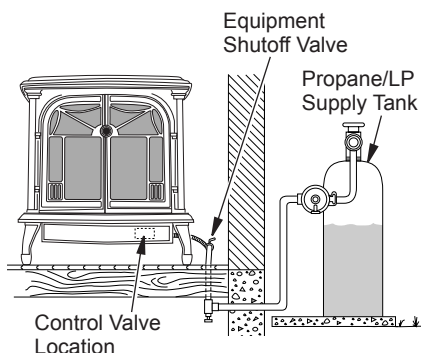
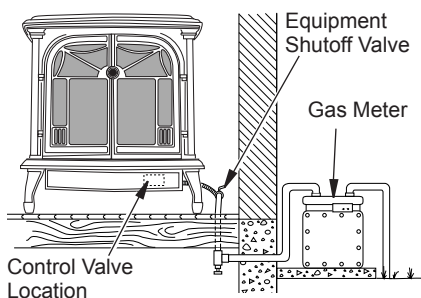

Figure 10 - Checking Gas Joints on Propane/LP Gas Unit
Figure 11 - Checking Gas Joints on Natural Gas Unit
shutoff valve (see Figure 10 or Figure 11). Apply noncorrosive leak detection fluid to gas joints. Bubbles forming show a leak.
4. Check all joints from equipment shutoff valve to control valve (see Figure 10 or Figure 11). Apply noncorrosive leak detection fluid to gas joints. Bubbles forming show a leak.